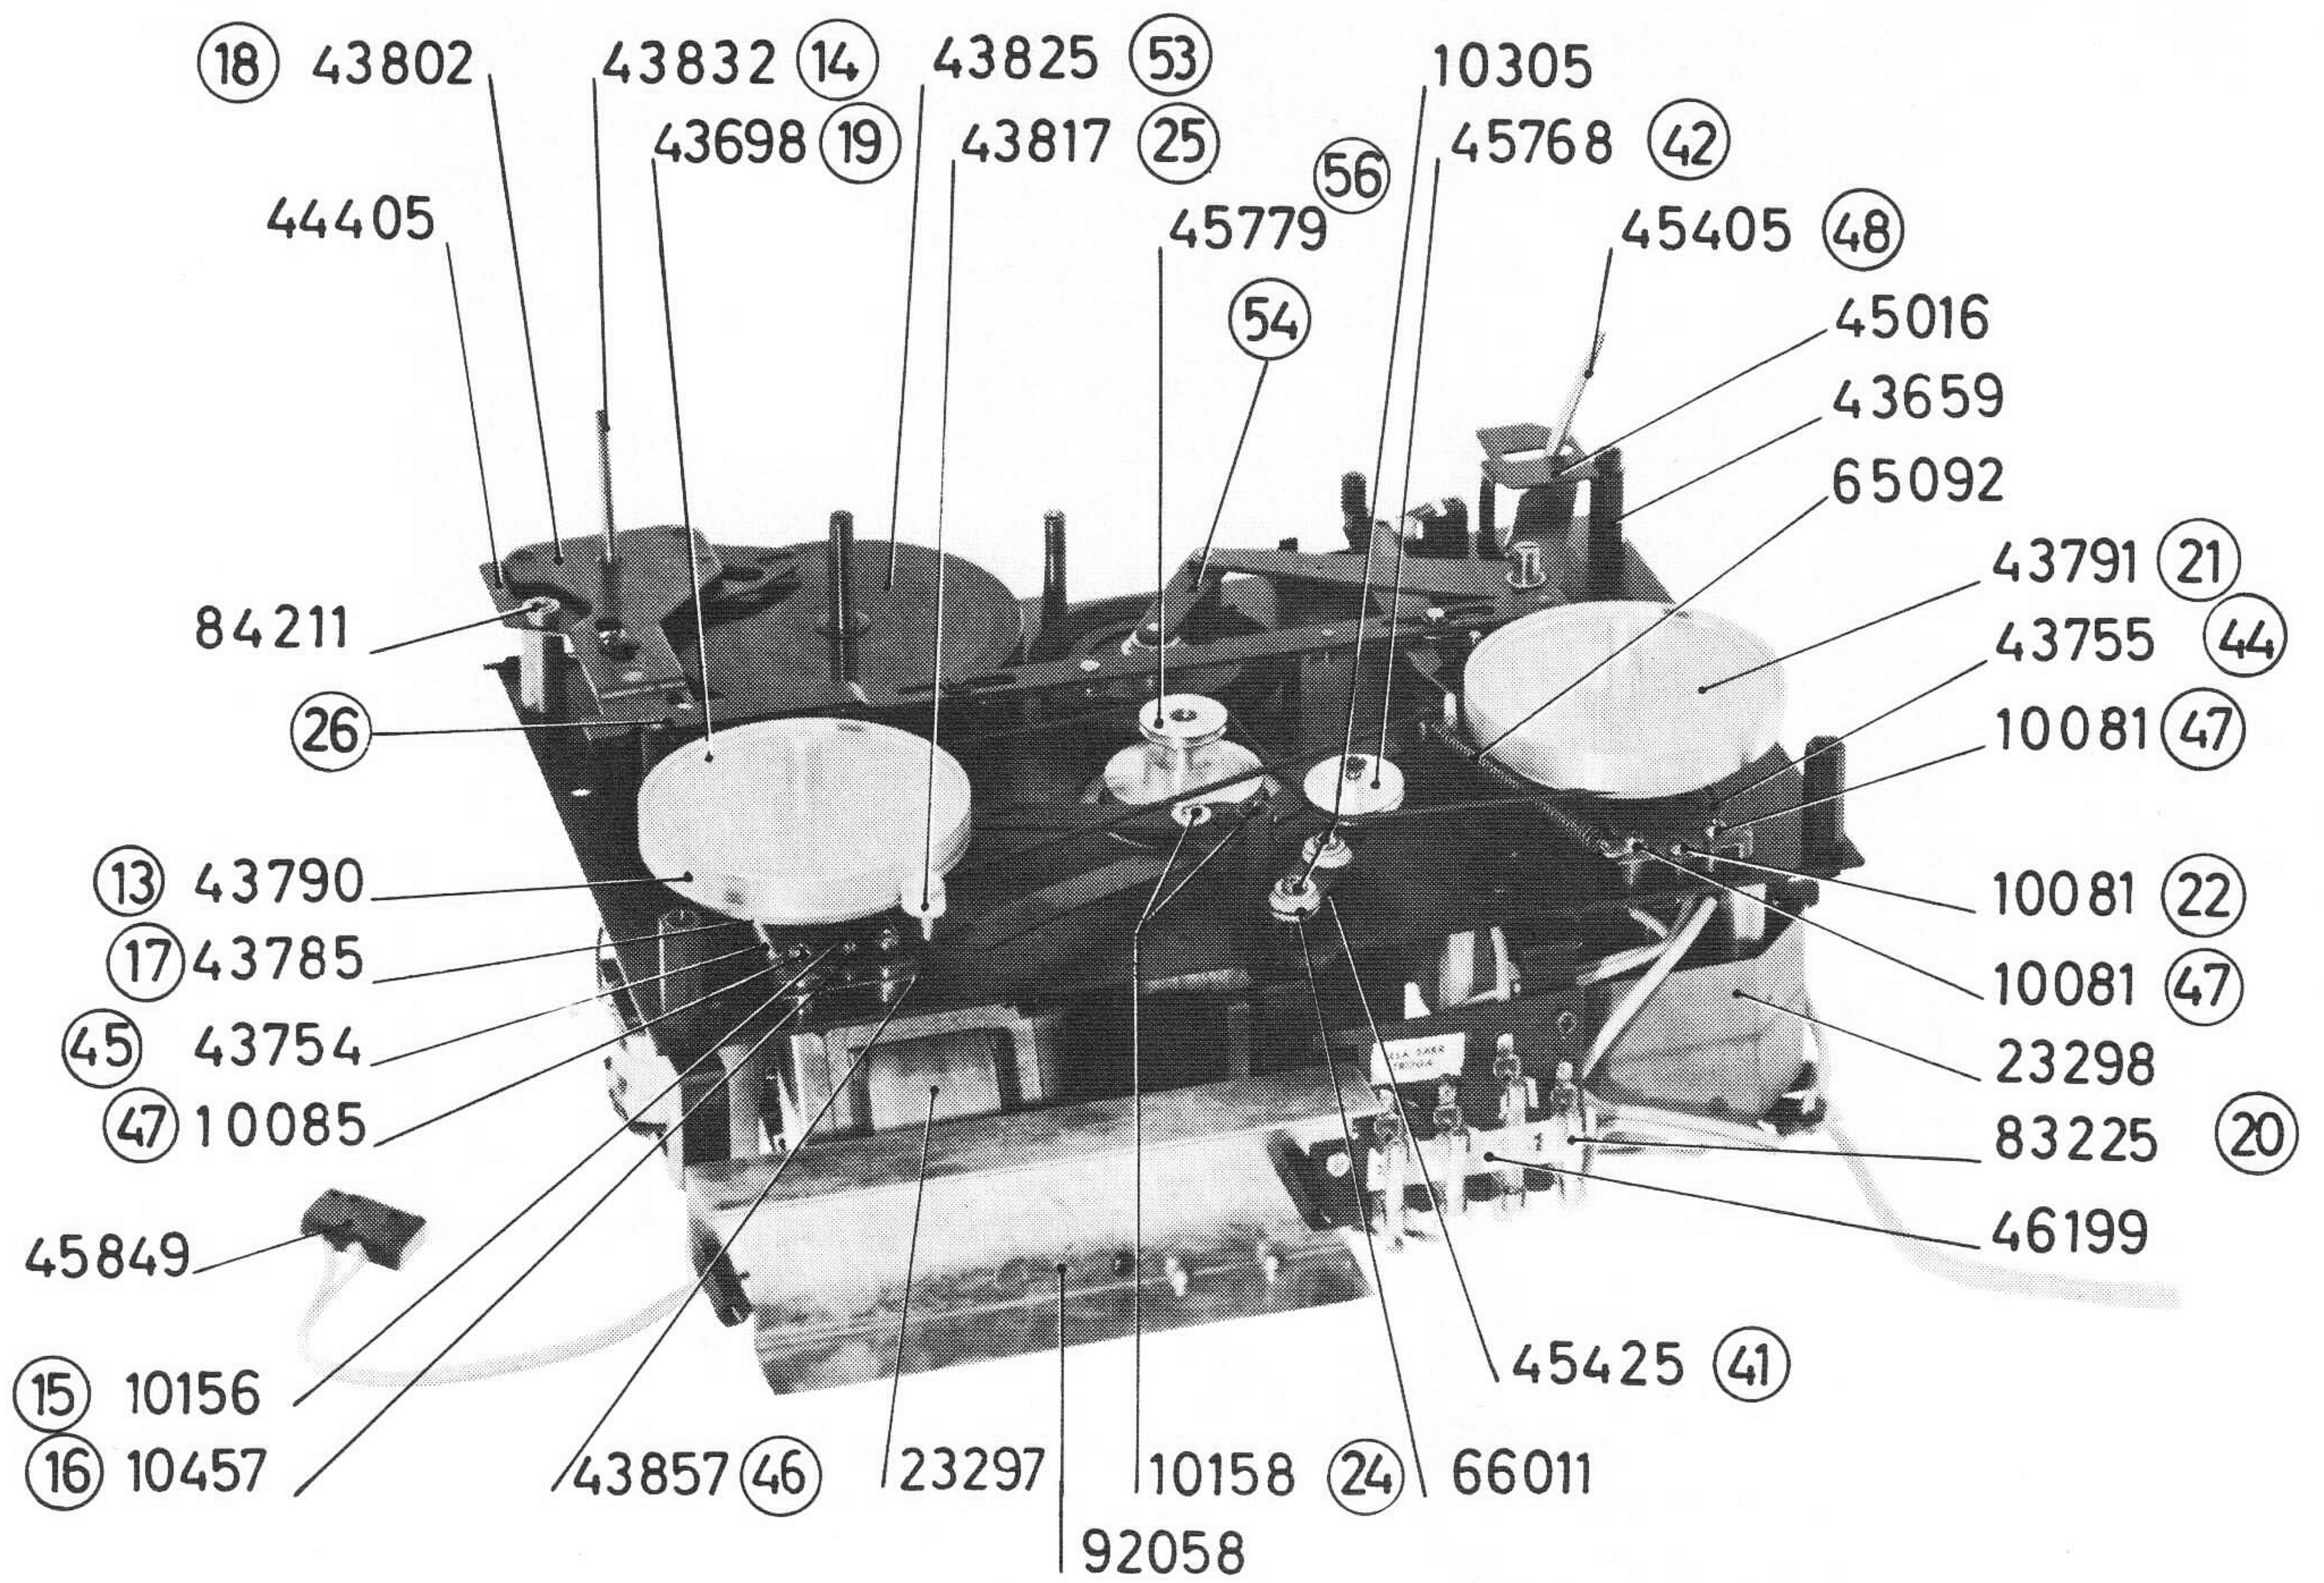

Fig. 3
(16) TILLS VÅGEN VISAR 130 \pm 10 GRAM. SE FIG. 3.
B) KONTROLLERA ATT ETT AVSTÅND PÅ 0,5 - 0,7 MM FINNES MELLAN SPOLHJULETS (13) FRIKTIONSFLT OCH REMSKIVANS (17) ÖVRE FRIKTIONSUTA. FÖLJANDE JUSTERING GÖRES: PÅ MANÖVERARMEN (18) FINNES EN JUSTERMUTTER (19). AVSTÅNDET ÖKAS GENOM ATT SKRUVA UPP JUSTERMUTTERN. STARTSPAKEN (14) SKALL STÅ I NOLLÄGE, DÅ DENNA JUSTERING UTFÖRES. SE FIG. 3.
C) FINSÄKRINGEN 710 mA (20) UTLÖST. SE FIG. 3.
FÖR ATT JUSTERA DETTA ANVÄNDES EN TOMSPOLE MED EN INNERDIAMETER AV 57 MM, PÅ VILKEN ÄR UPPLINDAD EN BIT SKALLINA. DENNA SPOLE PLACERAS PÅ BANDSPELARENS VÄNSTRA SPOLHJUL (21), VAREFTER SKALLINANS FRIA ÄNDE FÄSTES I EN FJÄDERVÅG. FÖR DEN HÖGRA SPAKEN (14) TILL LÄGET MÄRKT MED TVÅ PILAR ÅT VÄNSTER, JUSTERA MED JUSTERSKRUVEN (22) TILLS GRAMVÅGEN VISAR 100 + 20 GRAM. SE FIG. 3.
A) STOPPBROMSARNA JUSTERAS SÅ, ATT DÅ STARTSPAKEN (14) STÄLLES I LÄGE SNABBT FRAM ELLER SNABBT BACK SKALL DEN VÄNSTRA BROMSFILTEN (23) LIGGA 0,1 - 0,3 MM FRÅN YTERKANTEN PÅ VÄNSTRA SPOLHJULET (21). DETTA AVSTÅND JUSTERAS GENOM ATT LOSSA DE BÅDA JUSTERSKRUVARNA (24). FÖR SEDAN STARTSPAKEN (14) TILL STOPPLÄGE, VRID VÄNSTRA SPOLHJULET (21) EN ANING MOTURS. VAREFTER DEN HÖGRA BROMSFILTEN (25) JUSTERAS (GENOM BOCKNING), SÅ ATT EN BROMSKRAFT ERHÅLLES PÅ HÖGRA SPOLHJULET, SOM NÅGOT UNDERSTIGER BROMSKRAFTEN PÅ DET VÄNSTRA SPOLHJULET. SE FIG. 3.
B) KONTROLLERA ATT MANÖVERARMEN (26) LIGGER LÄTT AN MOT BASPLATTAN (JUSTERAS GENOM BOCKNING) SE FIG. 3.
BRYTRULLEARMEN (41) JUSTERAS SÅ (GENOM LÄTT BOCKNING), ATT ETT SPEL PÅ MIN. 0,5 MM FINNES I REMKORSNINGEN. SAMTIDIGT SKALL BRYTRULLEN (42) VARA FRITT RÖRLIG I HÖJDLED. (MIN. 0,75 MM FRÅN LAGERTAPPENS ANSATS NEDTILL OCH LÅSKLAMMERN UPPTILL. SE FIG. 3.
MANÖVERFJÄDRARNA (44,45 OCH 46) MONTERAS SÅ ATT FJÄDRARNAS RÖRELSER I HÖJDLED EJ HINDRAS GENOM ATT FJÄDRARNA NÖTER MOT SPOLHJULSNAVENS LAGERBUSSNINGAR D.V.S. ATT FJÄDRARNA MÅSTE HÅLLAS I ETT NEUTRALLÄGE DÅ DERAS FÄSTSKRUVAR (47) ÅDRAGES. SE FIG. 3.
MOTORN DRIVRULLE (56) JUSTERAS I HÖJDLED SÅ ATT DÅ MANÖVERSPAKEN (48) STÅR I LÄGE 1 7/8" SKALL 1,5 MM AVSTÅND FINNAS MELLAN UNDER KANTEN AV MELLANHJULETS GUMMIBANA OCH ÖVRE KANTEN AV DRIVRULLENS 3 3/4" DRIVBANA. JUSTERING AV DRIVRULLENS HÖJDLÄGE GÖRES GENOM ATT ROTORN HÅLLES STILLA, UNDER DET ATT DRIVRULLEN VRIDES MOTURS, SAMTIDIGT SOM DEN HÖJES ELLER SÄNKES EFTER BEHOV. SE FIG. 3.